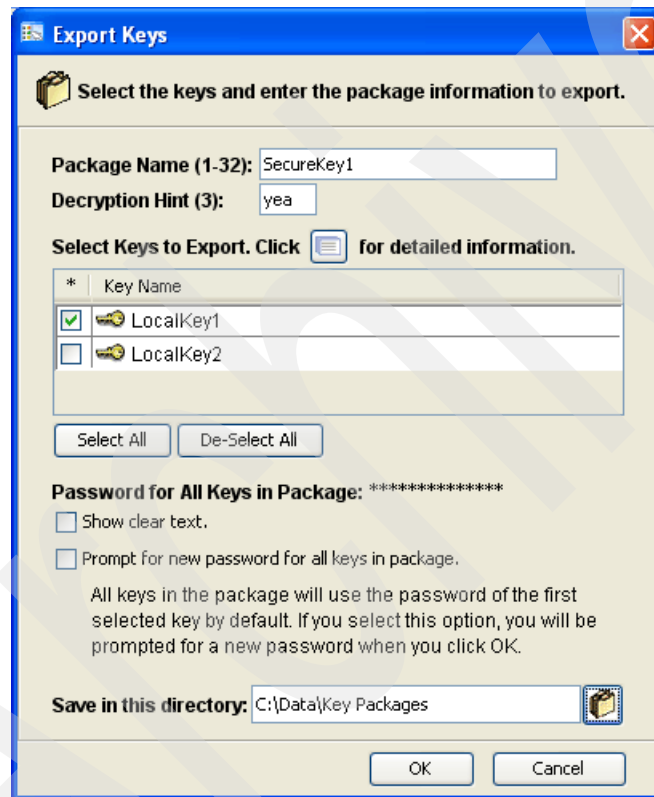

Figure 12-72 Select a key to include in the key package
3. In the panel in Figure 12-72: